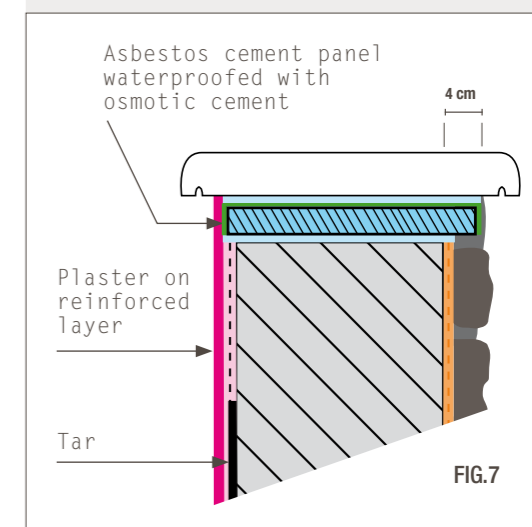

FIG.7
2. Roofing material (stone or agglomerates) expanding incompatibly with the structure, causing cracks on joints resulting in water penetration. Before installing the stone a horizontal waterproof layer must be applied. For this purpose an asbestos cement panel can be glued to the top of the wall, protruding at least 4 cm from the **murogeopietra** and lying flush with any plasterwork, and waterproofed with paste or cement-based materials and fibreglass reinforcement, enabling subsequent application of adhesive and the coping (Fig.7).